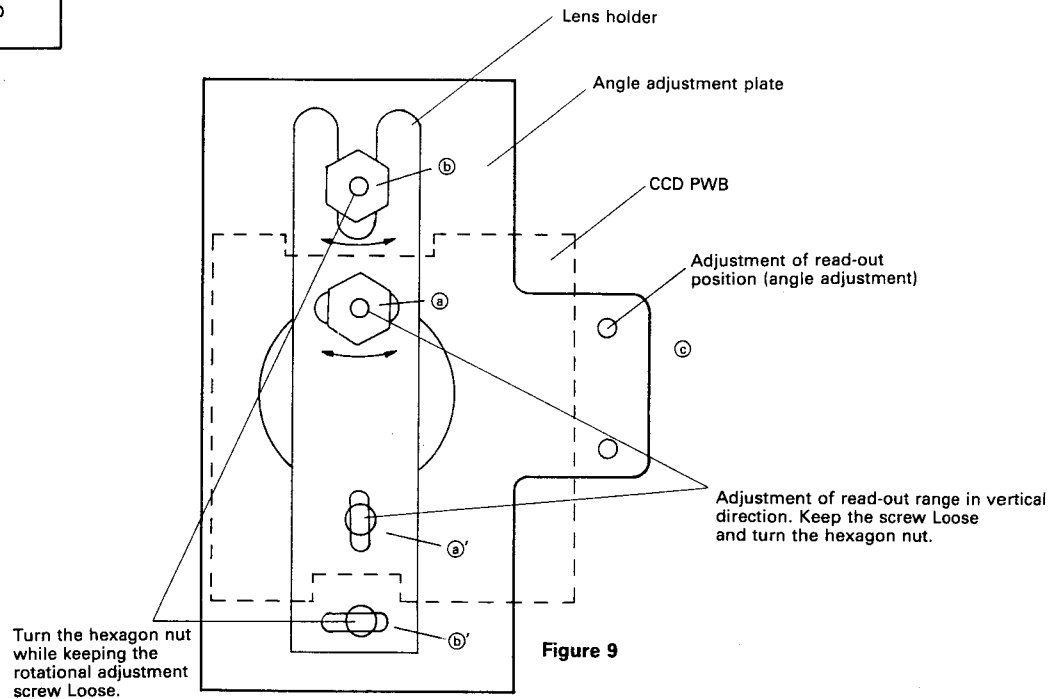

Figure 9
- (4) Loosen the screws (a) and (a') shown in Figure 9.
- (1) Make a copy of one frame and check its printing condition.
- (2) When the resultant print is like the one shown in Figure 14, turn the screw ③ shown in Figure 9 slowly counterclockwise while making copy of one frame. Stop the screw when the print becomes like the one shown in Figure 15. At this point, the adjustment is finished.
- (1) Remove the rear cover and install the printer.
- (2) Turn on the power switch and make initial setting.
- (3) Draw a perpendicular line with a black marker along with an arbitrary vertical line at the centre of the writing white sheet.
- (4) Loosen the screws ⑥ and ⑥' shown in Figure 9.
- (1) Make a copy of the frame with the vertical line.
- (2) Check the condition of the copied line.
- (3) When the vertical line is printed like the way as shown in Figure 17, turn the hexagon nut ⑥ in Figure 9 counterclockwise using the adjustment Tool until the line becomes like the one shown in Figure 18. When the line is printed like Figure 20, turn the hexagon nut clockwise until the line becomes like Figure 18 or 19.